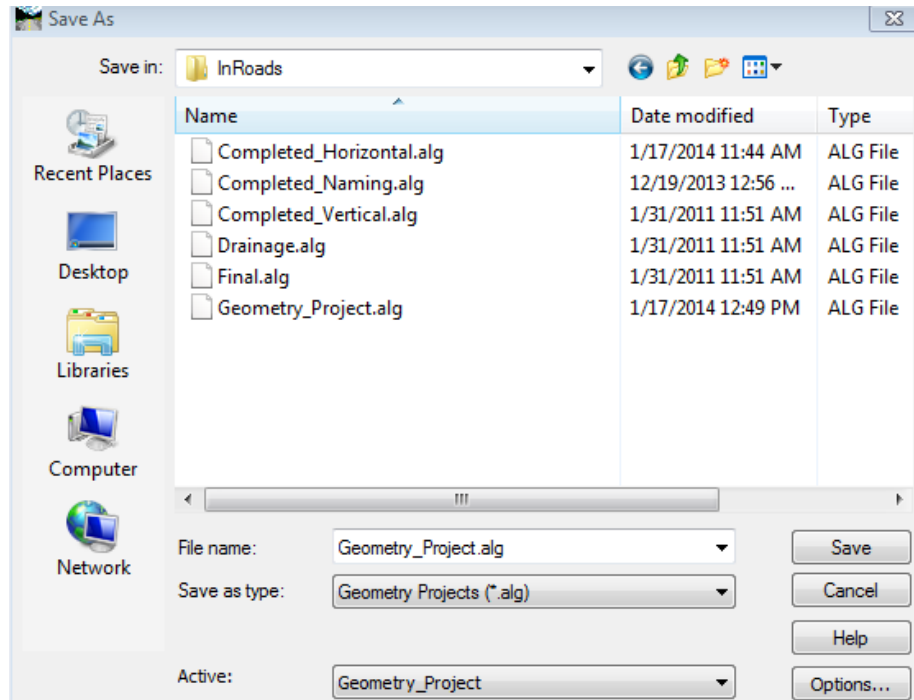

Figure 1-6 InRoads Save As Geometry Projects Dialog Box
- J. **Create** and **Save** the **.alg** (Geometry Project) file. Click to **File > Save As** on the InRoads Menu Bar. In the Save As box **select** Geometry Projects (*.alg) from the pull down for Save as type: . For Active: select the geometry name from the pull down and then the File name will appear in the File Name Box. Click **Save**, and then after the file is saved, click **Cancel**. See Figure 1-6.